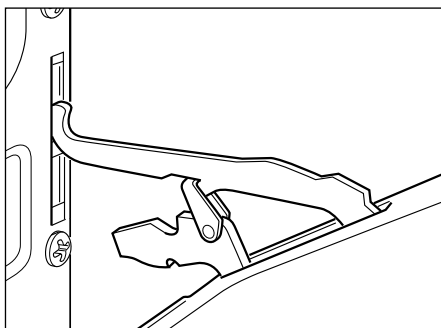

Fig.44d
- 4 Now pull the oven door forwards off the appliance. Release both hinge sections from the slots (Fig. 44d).